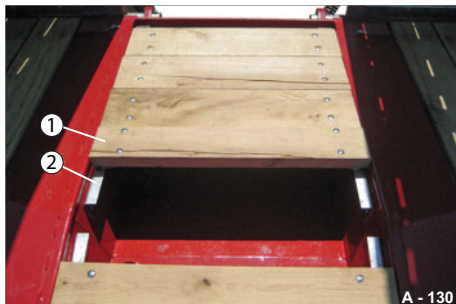

Fig. 121 Closing arm cavity
- ▶ Place the wooden planks (Fig. 121/1) on the support metal bracket (Fig. 121/2) in the correct order.